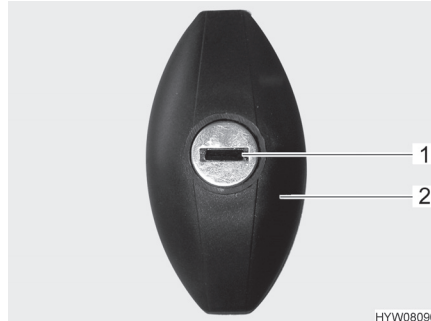

Fig. 59 Flap lock (elliptical-shaped, closed)
- Insert key into locking cylinder (Fig. 59,1) and turn one half turn in an anticlockwise direction. The lock handle (Fig. 59,2) snaps out.